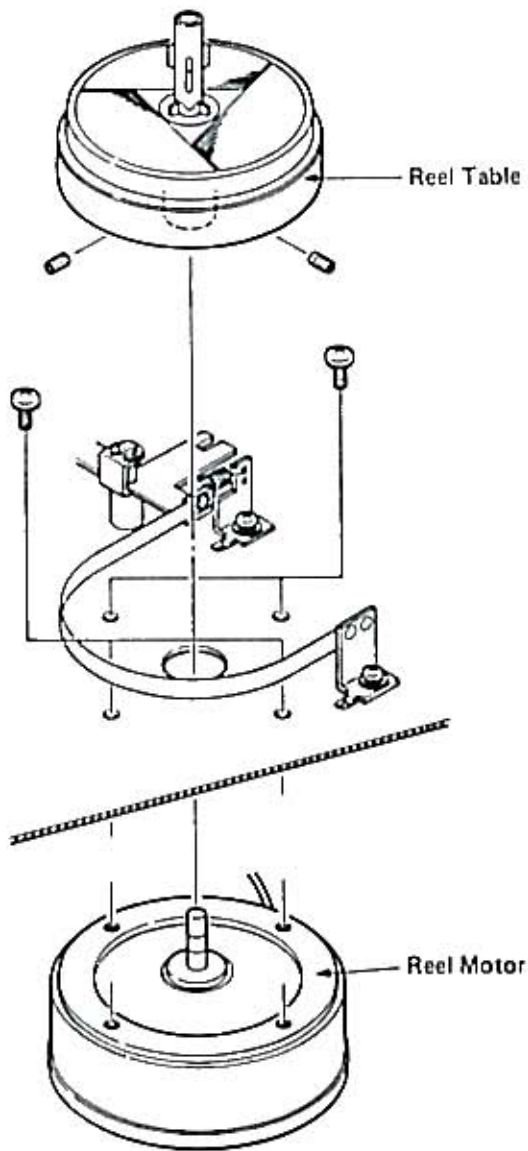

Fig. 1-2-2. Reel Motor Removing
1. After removing the top panel and bottom plate, remove the reel table assembly as shown in Fig. 1-2-2, and remove the four screws holding the reel motor.